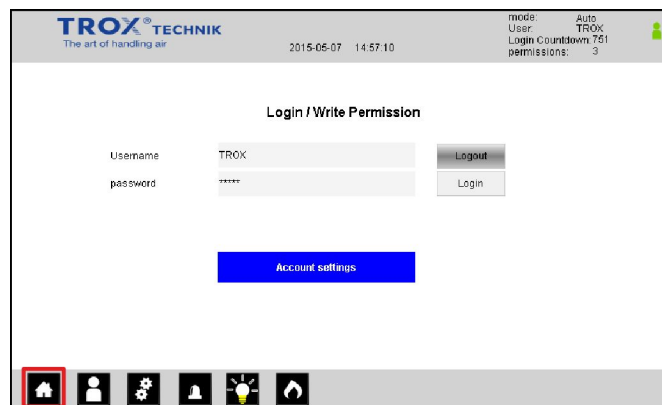

Fig. 18: Opening the system overview screen (variant 1)
- ▶ Once you are logged in, press  (Fig. 18).